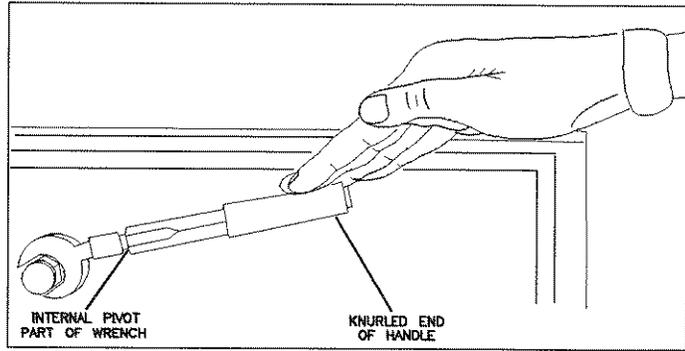

Figure 3-24. Make the Final Connection With a Torque Wrench
5. Use a torque wrench to make the final connection (Figure 3-24).